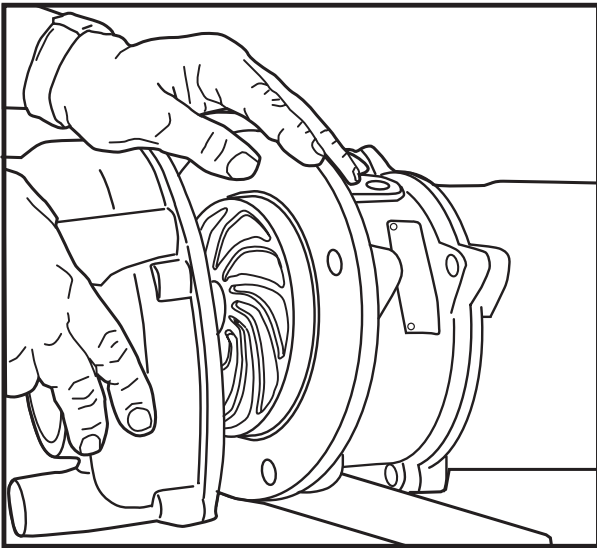

Fig. 26
18. Replace volute case being careful to have gasket in place. Line up with center marks made before dismantling pump. See Figure 26.